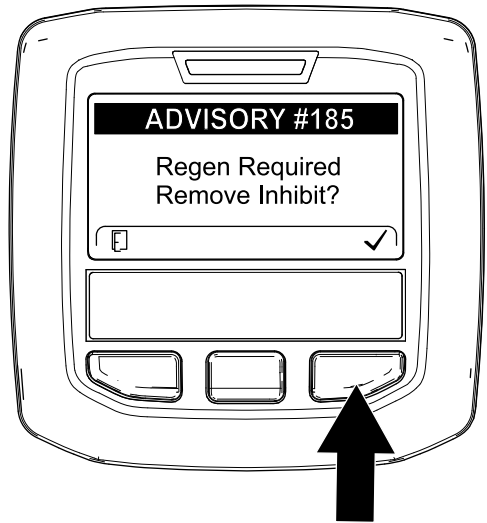

Figure 78
**Note:** If INHIBIT REGEN is set to ON, the InfoCenter displays ADVISORY #185 (Figure 78). Press button 3 to set inhibit regeneration setting to OFF and continue with the reset regeneration.